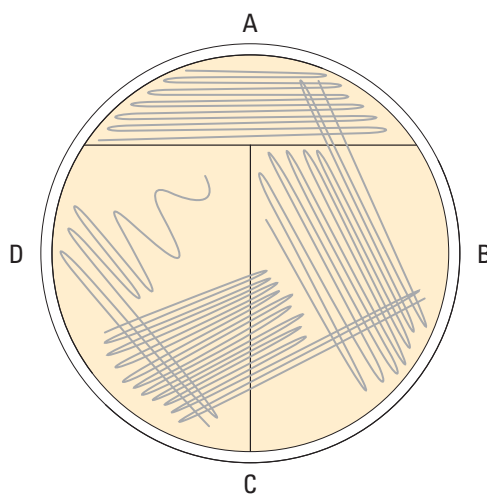

Figure 1. Streaking Starter Plates with *E. coli*
- a.** Insert a sterile inoculation loop straight into the vial of rehydrated bacterial culture. Remove the loop and streak the plates, as illustrated in Figure 1. Streaking takes place sequentially in four quadrants. The first streak spreads out the cells. Go back and forth with the loop about a dozen times in each of the small areas shown. In subsequent quadrants, the cells become more and more dilute, thus increasing the likelihood of producing single colonies.